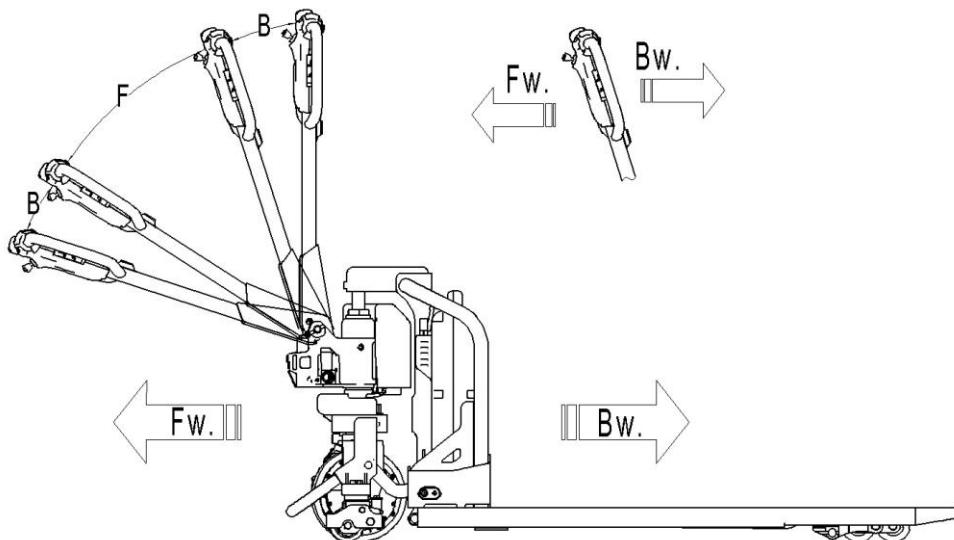

Fig. 9: Operating direction
tiller to the operating one ('F', fig.9).
Turn the accelerator button(2) to the desired direction forward 'Fw.' or backwards 'Bw.'(fig. 9).